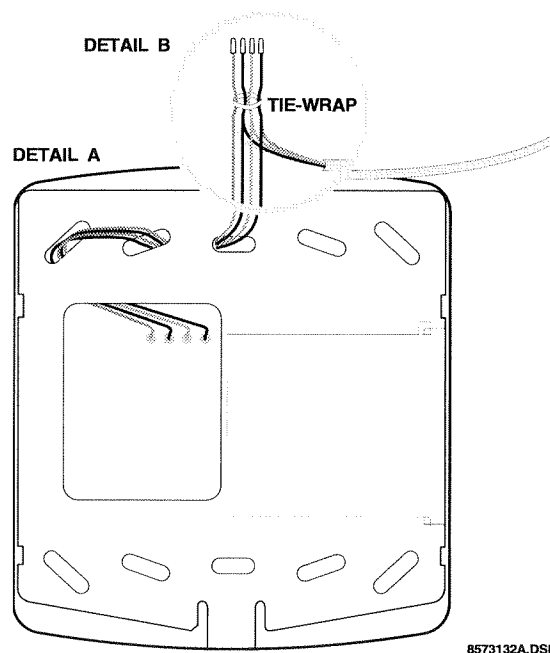

Figure 1. Threading the Cable Through the Backplate Mounting Holes, Splicing, and Tie-Wrapping Wires
2. Thread the cable end with the bare leads through the backplate mounting holes as shown in detail A in Figure 1.
4. Connect the cable wires and touchpad wires together (color to color), then crimp an insulated “B” type connector on each wire connection as shown in detail B in Figure 1.
5. Install a tie-wrap around the wires, just below the splice points as shown in detail **B** in Figure 1. This provides strain relief and helps prevent splices from coming apart.